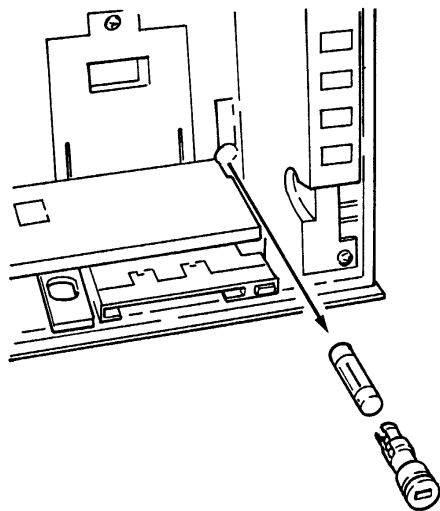

Figure 11.2 Fuse Replacement
- 2 The fuse is now visible in the right lower front of the plate. See also figure 11.2. Turn the knob of the fuse holder counterclockwise, and the holder will slide out with the fuse.